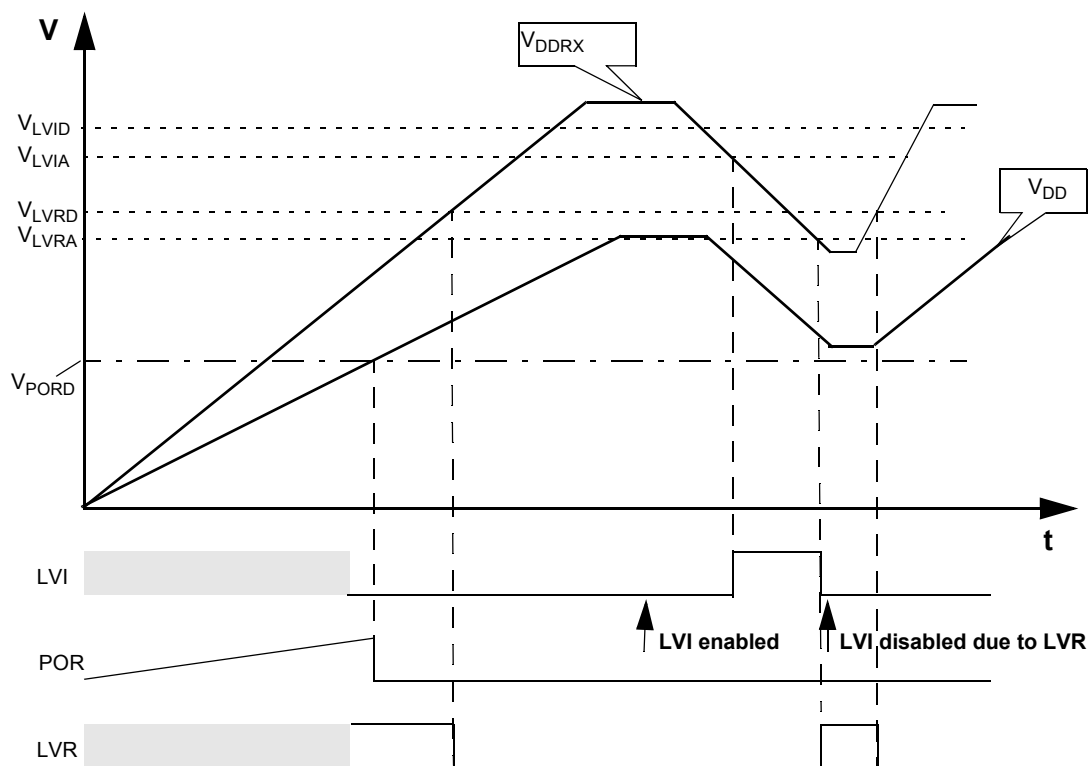

Figure 7. Chip power-up and voltage drops OSCLCPcr electrical specifications
56. Monitors VDDR \bar{X} , active only in Full Performance mode. MCU is monitored by the POR in RPM (see Figure 7)57. The ACLK Trimming CPMUACLKTR[5:0] bits must be set so that $f_{ACLK}=10\text{KHz}$.58. Monitors VDDR \bar{X} , active only in Full Performance mode. V_{LVRA} and V_{PORD} must overlap (see Figure 7)